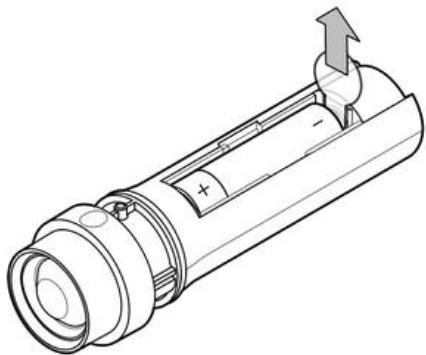

Fig. 4
3. Remove the insulating tab (Fig. 4).